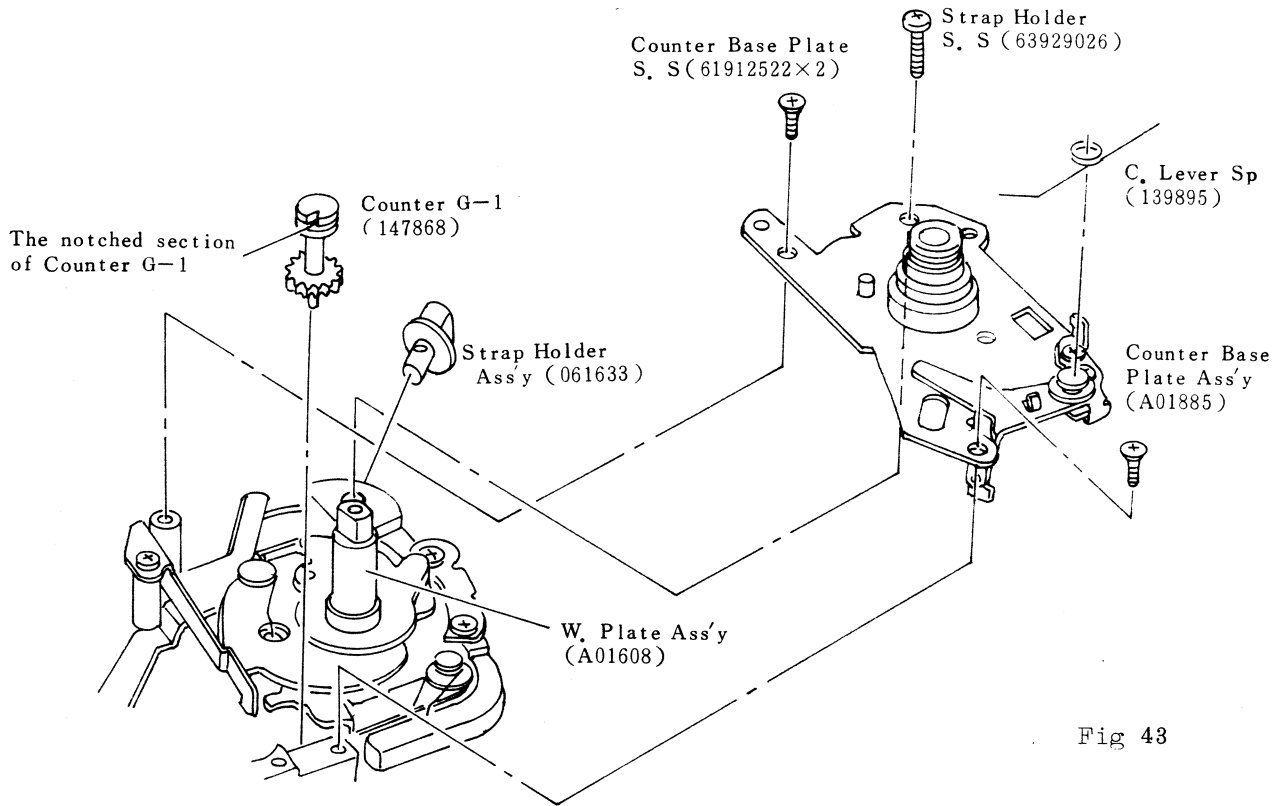

Fig 43
(4) Reassembling of Counter Base Plate Ass'y.
- a) Set the W. Plate Ass'y (A01608) as shown in (Fig 43).
- c) Insert and position the notched section of Counter G-1 (147868) opposite to the W. Base Ass'y (A01608) as shown in (Fig 43).